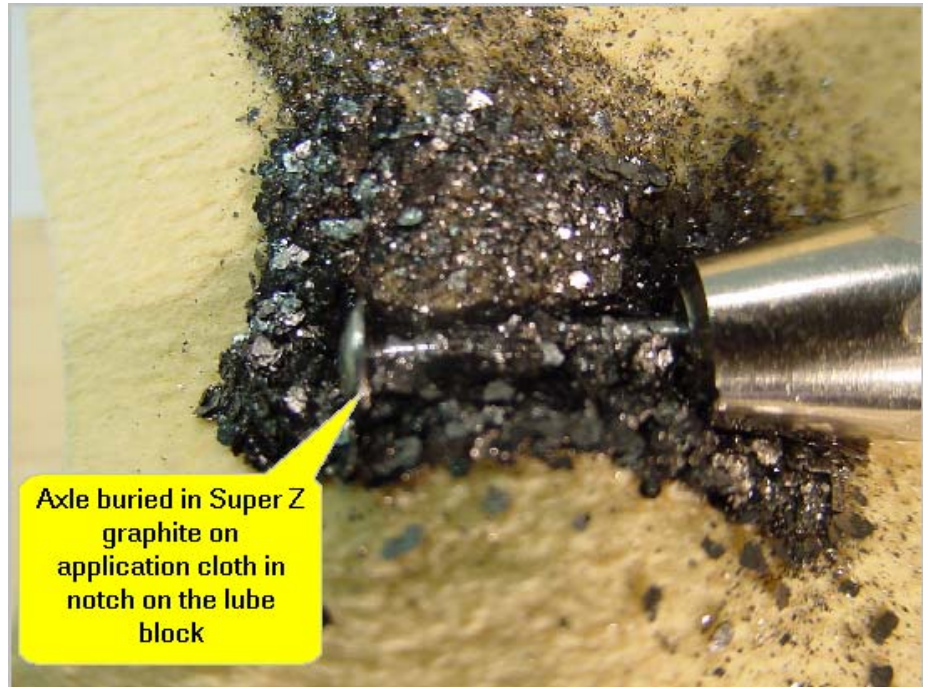

Figure 13 - Chuck axle in swivel-head pin vise and put Super Z graphite on the application cloth..
- Lay the application cloth and graphite on the lube block over the notch and then bury the axle shaft in the Super Z in the notch as shown in **Fig. 13**.